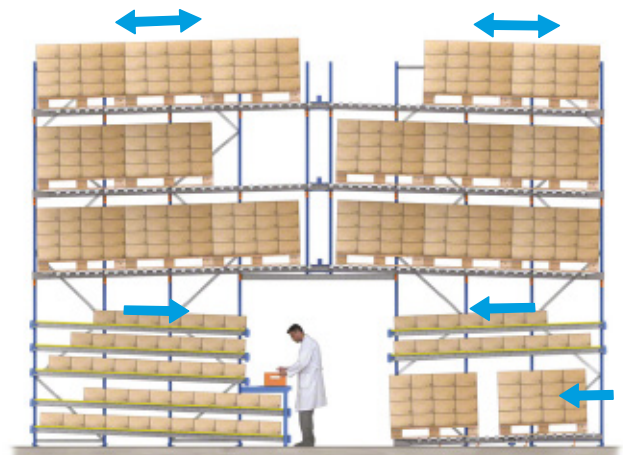

Figure 2
2. **Several levels of live picking on the lower level**, which can stock pallets both from the upper levels and from boxes previously extracted from these pallets (Figure 2).